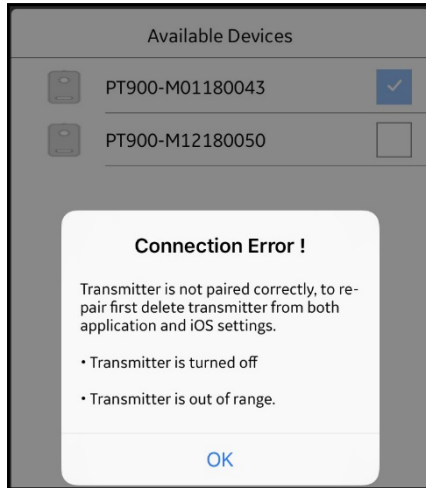

**Figure 70: Paired Transmitters List**
12. Click the BACK button on the tablet to return to the PT900 APP main menu. Then, select your PT900 transmitter in the TRANSMITTERS PAIRED list and click NEXT to open the Main Menu. For example, the PT900-M09160025 transmitter is selected from the list in Figure 70 below.
- Note:** If desired, you may simulate the APP operation without connecting to the transmitter. To do so, click the WORK OFFLINE option in Figure 70 above.